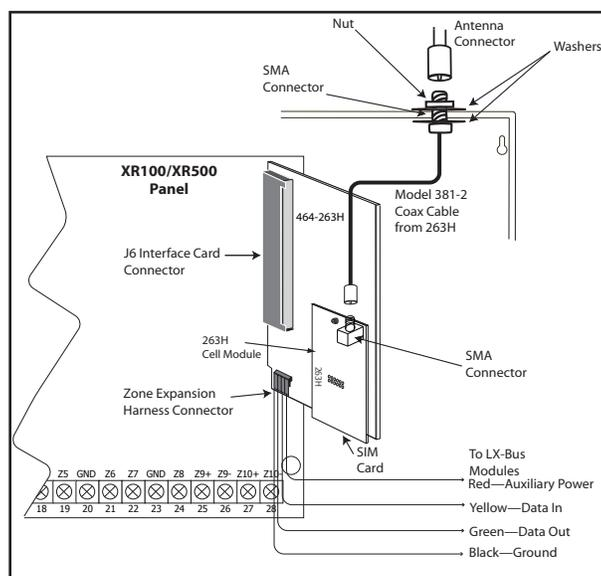

Figure 2: 464-263H HSPA+ Wiring
Align the 464-263H card 50 pin connector with the J6 connector and press the card onto the connector while applying even pressure to both sides of the board. See Figure 2.
3. Attach the included 383C Antenna to the SMA connector. See Figure 2.
4. Attach the opposite end of the 381-2 Coax to the SMA connector on the 464-263H. See Figure 2.